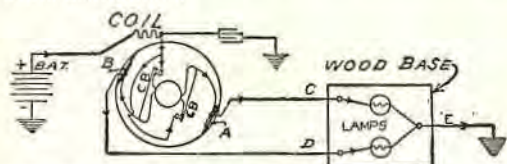
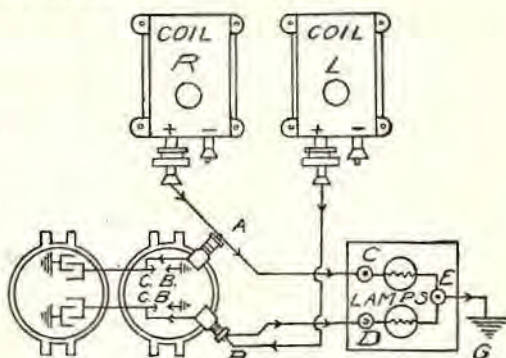

Fig. 21. Type 1 connection for synchronizing two interrupter contact-breakers (CB) connected in parallel.
Fig. 22. Type 2 connections for synchronizing two interrupter contact-breakers used on double ignition.
Distributors with which this set is used are divided into two types: type 1 (Fig. 21) has two sets of timing contacts connected in parallel; in type 2 (Fig. 22) the double distributors have two sets of contacts, each of which is connected to a separate primary ignition circuit, as in the Pierce-Arrow and Stutz distributors.
When used with distributors in type 1 (Fig. 21), each of the terminals (A) and (B) are slipped between the contact-arm spring, and the distributor housing with the metal side of the terminal in contact with the spring. Connect lead (E) to "ground." Current is obtained from the storage battery on the car by placing the ignition switch lever in "on" position.
When used with type 2 distributor (Fig. 22), the notches in the ends of the terminals (A) and (B) permit them to be readily connected to the two terminals on the distributor as shown.
By examining the connections as shown in Fig. 22, it will be noted that as each set of contact-breakers separate, the lamp in its circuit lights. When contact-breakers are closed, a short-circuit will be formed around lamps, causing them to go out.
For example, with models 32 and 33, the lamp connected in the circuit (Fig. 22) with the contact-points for the exhaust side should light 3 to 7 fly-wheel degrees before the one connected in the circuit with the contact-points for the intake side.